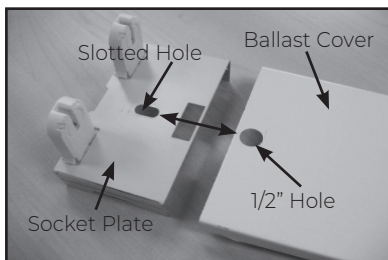

Figure 5: Align the slotted hole on the left-side Socket Plate to the 1/2" hole on the Ballast Cover.
13. Install the two (2) new Ballast Covers or the "White" or "Specular" Reflectors. Installation of each Ballast Cover or Reflector requires two (2) 1/4 Turn Retainer Clips. At each end of the Ballast Cover or Reflector there is a 1/2" (12.7mm) round hole. Start at the one side of the fixture housing, place the 1/2" hole on the Ballast Cover over the slotted hole on the end socket plate, insert one (1) 1/4 Turn Retainer Clip through the Ballast Cover and socket plate, then rotate the Retainer Clip one quarter turn to attach the Ballast Cover or Reflector. See Figures 5 and 5a. Follow the same procedure on the opposite end of the Ballast Cover or Reflector.